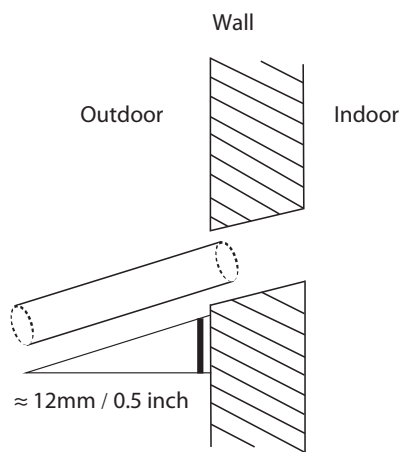

Fig. 6.5
- Using a 65-mm (2.5") core drill, drill a hole in the wall. Make sure that the hole is drilled at a slight downward angle, so that the outdoor end of the hole is lower than the indoor end by about 12mm (0.5"). This will ensure proper water drainage (See Fig. 6.5). Place the protective wall cuff in the hole. This protects the edges of the hole and will help seal it once you finish installation.